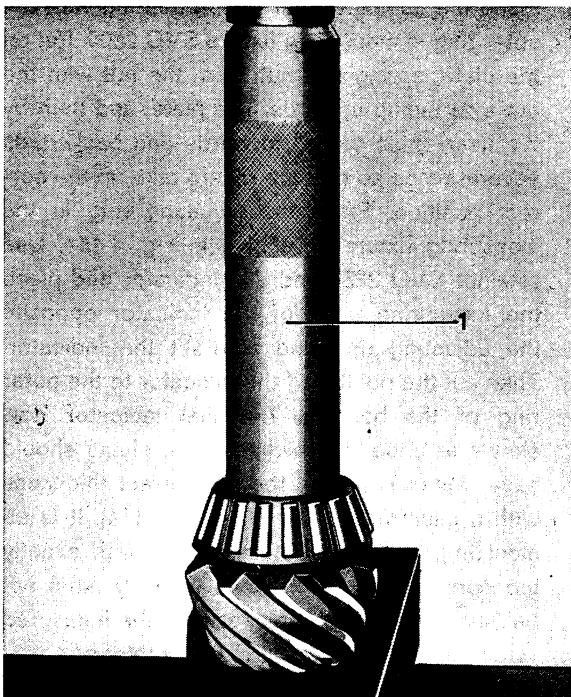

Fig. 4-153. Fitting rear pinion bearing
4. Press the rear bearing on the pinion with sleeve SVO 2395, see Fig. 4-153. N.B. The washer under the rear bearing inner ring must **not** be